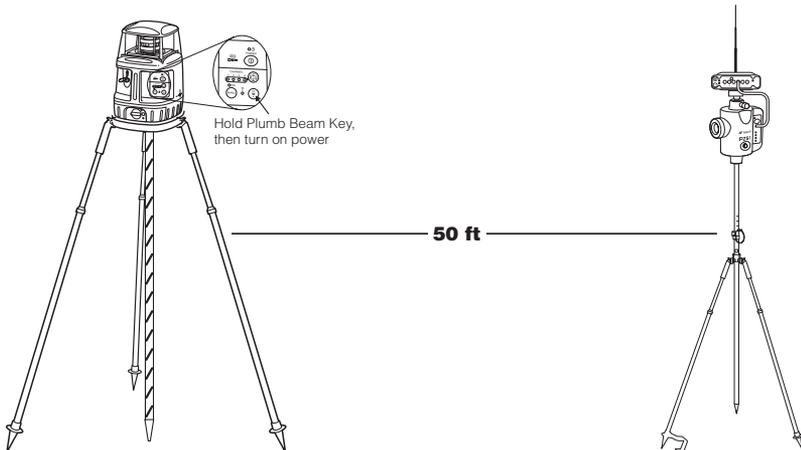

Figure 4-5. Setup Transmitter and Sensor
4. Set up the PZS-1 sensor at the same level as the transmitter, on relatively level ground, and approximately 50 meters (100 feet) away. Power on the sensor and receiver (Figure 4-5). Connect the sensor and Pocket-3D controller.